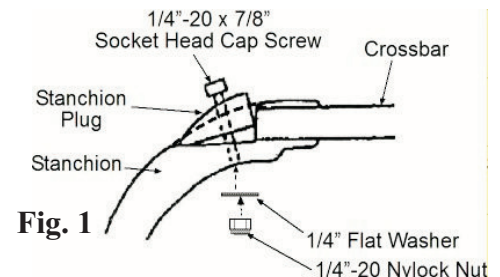

Fig. 1
1. Install stanchion plugs into two stanchions using 1/4"-20 x 7/8" cap screws, 1/4" flat washers and nylock nuts as shown in Fig. 1.